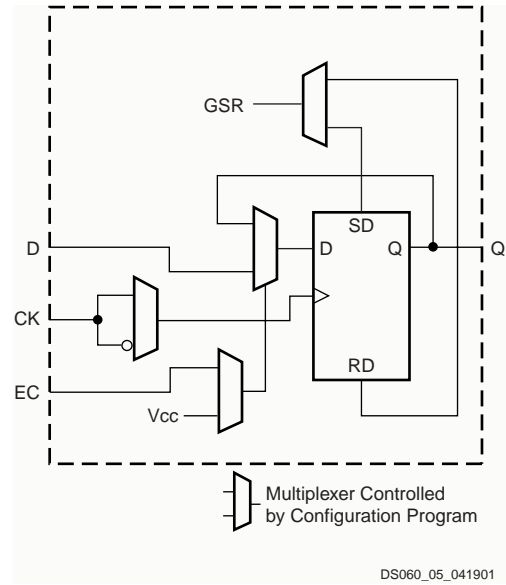
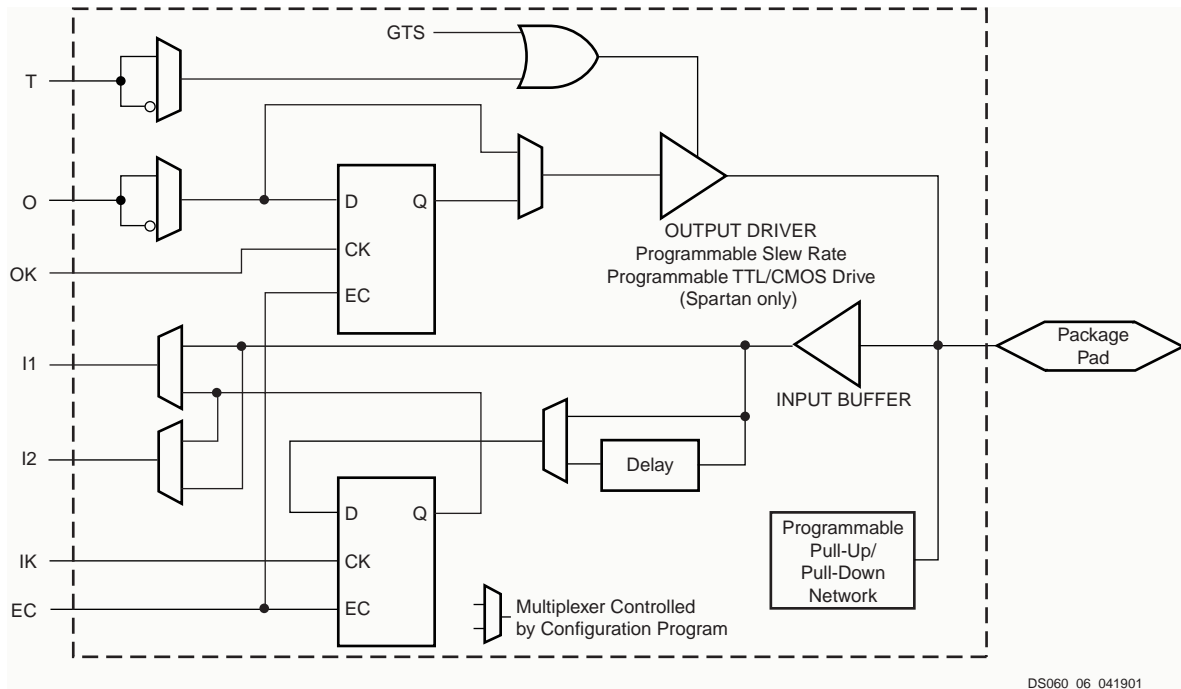

Figure 5: IOB Flip-Flop/Latch Functional Block Diagram
Figure 6: Simplified Spartan/XL IOB Block Diagram
User-configurable input/output blocks (IOBs) provide the interface between external package pins and the internal logic. Each IOB controls one package pin and can be configured for input, output, or bidirectional signals. Figure 6 shows a simplified functional block diagram of the Spartan/XL IOB.
The input signal to the IOB can be configured to either go directly to the routing channels (via I1 and I2 in Figure 6) or to the input register. The input register can be programmed as either an edge-triggered flip-flop or a level-sensitive latch. The functionality of this register is shown in Table 3, and a simplified block diagram of the register can be seen in Figure 5.
The register choice is made by placing the appropriate library symbol. For example, IFD is the basic input flip-flop (rising edge triggered), and ILD is the basic input latch (transparent-High). Variations with inverted clocks are also available. The clock signal inverter is also shown in Figure 5 on the CK line.
The Spartan IOB data input path has a one-tap delay element: either the delay is inserted (default), or it is not. The Spartan-XL IOB data input path has a two-tap delay element, with choices of a full delay, a partial delay, or no delay. The added delay guarantees a zero hold time with respect to clocks routed through the global clock buffers. (See **Global Nets and Buffers**, page 12 for a description of the global clock buffers in the Spartan/XL families.) For a shorter input register setup time, with positive hold-time, attach a NODELAY attribute or property to the flip-flop. The output of the input register goes to the routing channels (via I1 and I2 in Figure 6). The I1 and I2 signals that exit the IOB can each carry either the direct or registered input signal.
An active High 3-state signal can be used to place the output buffer in a high-impedance state, implementing 3-state outputs or bidirectional I/O. Under configuration control, the output (O) and output 3-state (T) signals can be inverted. The polarity of these signals is independently configured for each IOB (see Figure 6, page 7). An output can be configured as open-drain (open-collector) by tying the 3-state pin (T) to the output signal, and the input pin (I) to Ground.
As with the CLB registers, the GSR signal can be used to set or clear the input and output registers, depending on the value of the INIT attribute or property. The two flip-flops can be individually configured to set or clear on reset and after configuration. Other than the global GSR net, no user-controlled set/reset signal is available to the I/O flip-flops (Figure 5). The choice of set or reset applies to both the initial state of the flip-flop and the response to the GSR pulse.
The input and output flip-flops in each IOB have a common clock enable input (see EC signal in Figure 5), which through configuration, can be activated individually for the input or output flip-flop, or both. This clock enable operates exactly like the EC signal on the Spartan/XL CLB. It cannot be inverted within the IOB.